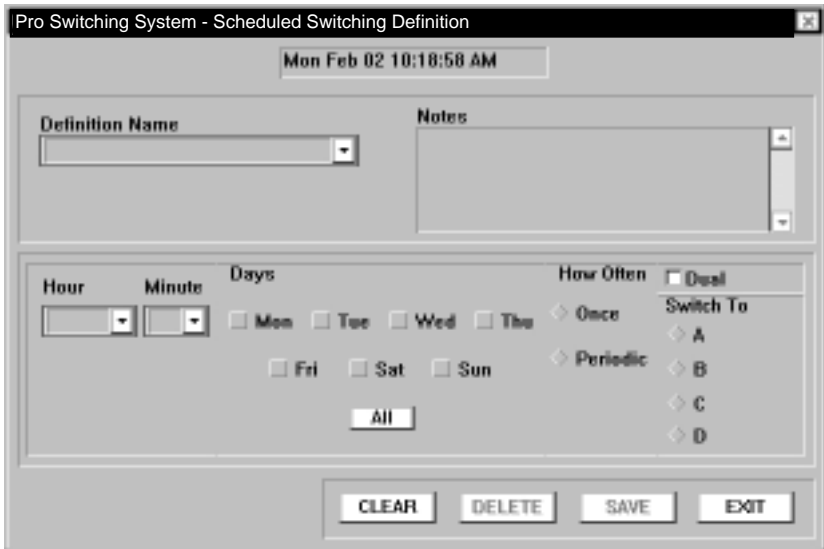

Figure 6-14. Switch Schedules Screen.
- From the main menu, select Pro Switching System, then Definitions, then Switch Schedules. The Scheduled Switching Definition screen appears (see Figure 6-14).